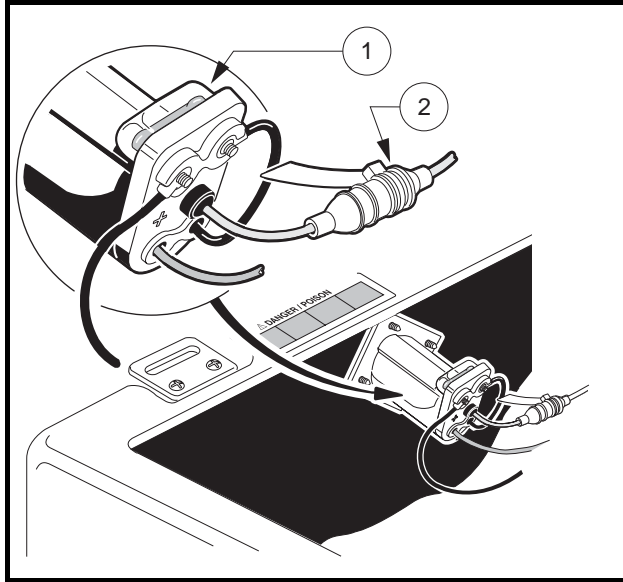

Figure 19 Receptacle Fuse Link
As an additional feature to protect the batteries and charging circuit from an overload, the electric vehicle is equipped with a receptacle fuse link (1) (**Figure 19**). If the charger does not come on when the vehicle is placed on charge, visually inspect the fuse link. **See following WARNING.**